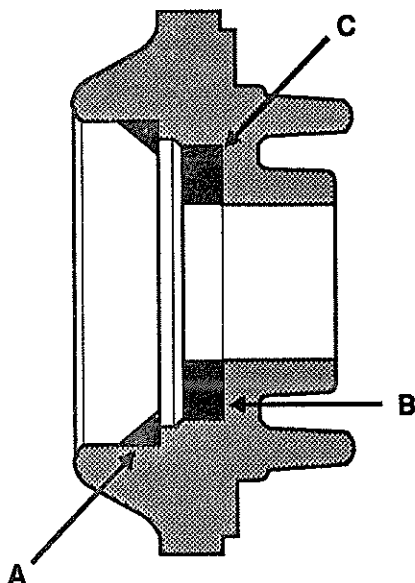

Figure 6-16
- Once the locking rings are removed, the bearing carrier (L) is now exposed. To expose the seals, remove the bearing carriers.
- When the inner bearing race (A, Figure 6-16) is removed, the oil seal (B) can be seen. Use a hammer and steel punch and drive the oil seal out, towards the bearing race which was removed earlier.
- e. When re-installing the seals, apply sealant to the outer metal surface (C, Figure 6-16). This will ensure a tight seal against the bearing carrier and seal.